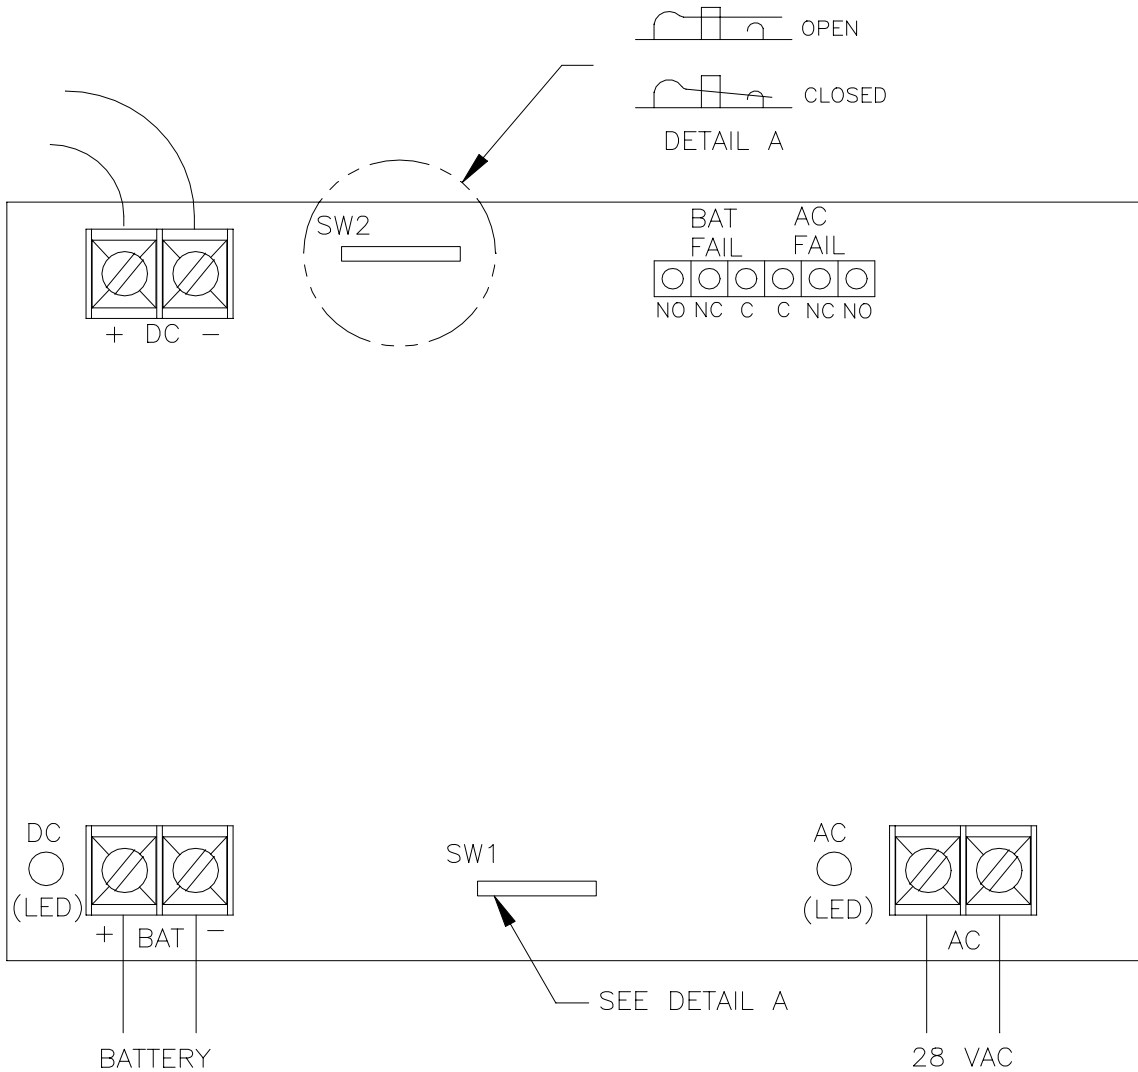
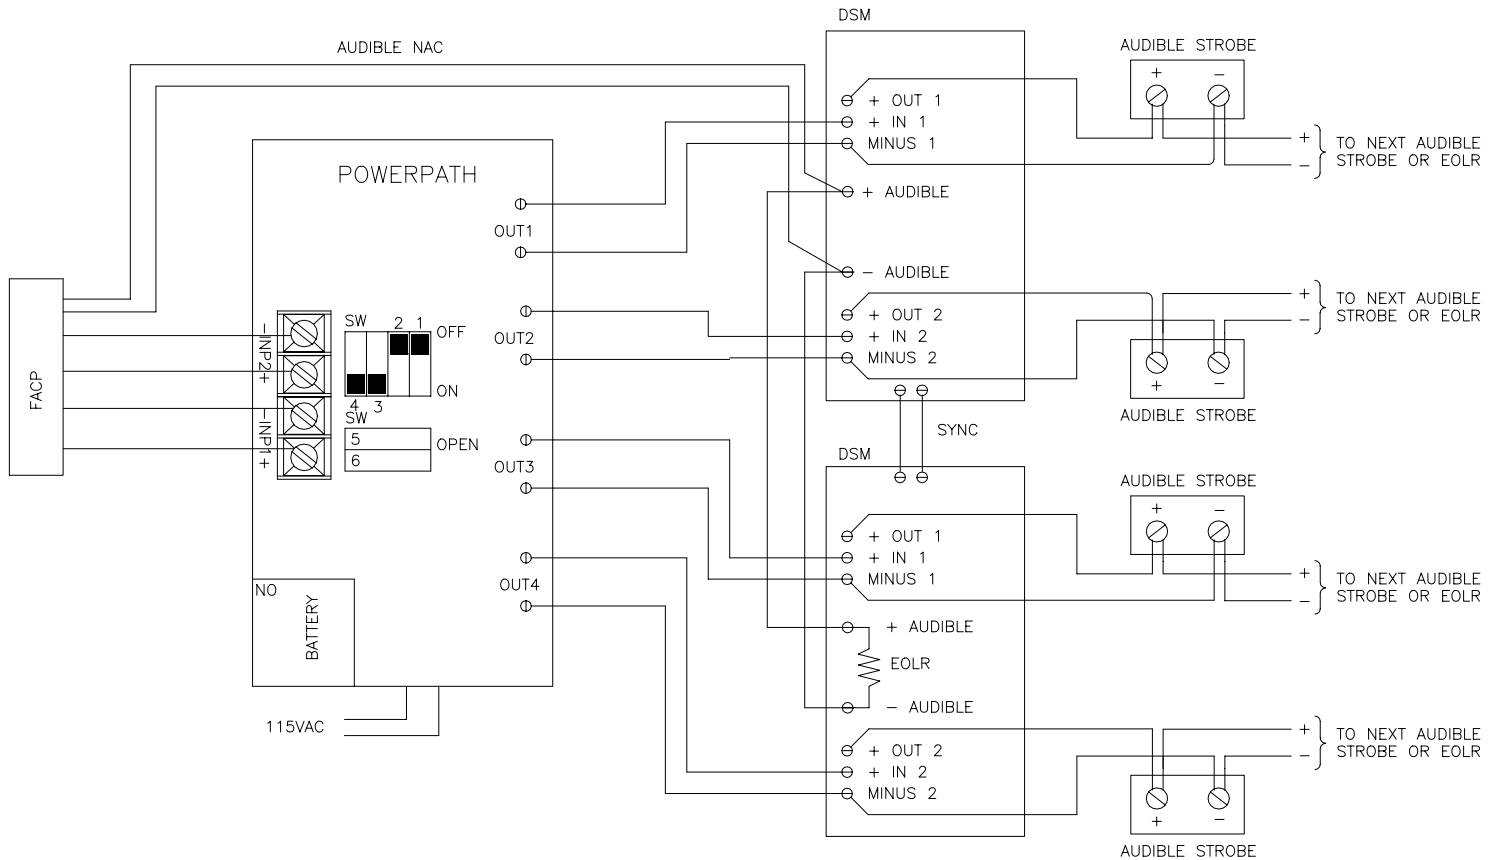

Figure 2:
Figure 10:
Both AC and BATTERY FAIL offer (1) FORM C dry contacts across AC FAIL and BAT FAIL terminal outputs. Instead of dry contacts, you can present a low resistance (1 K Ω) across AC FAIL and BAT FAIL terminal outputs. This low resistance value can be used to create a trouble condition on the indicating NAC. Place the AC FAIL and/or BAT FAIL terminal outputs across the indicating NAC output, while not affecting NAC integrity to be armed in the event of a fire (to present 1 K Ω resistance: cut jumper J1 for AC FAIL terminal, J2 for BAT FAIL terminal). Refer to Figure 2 and Figure 10.